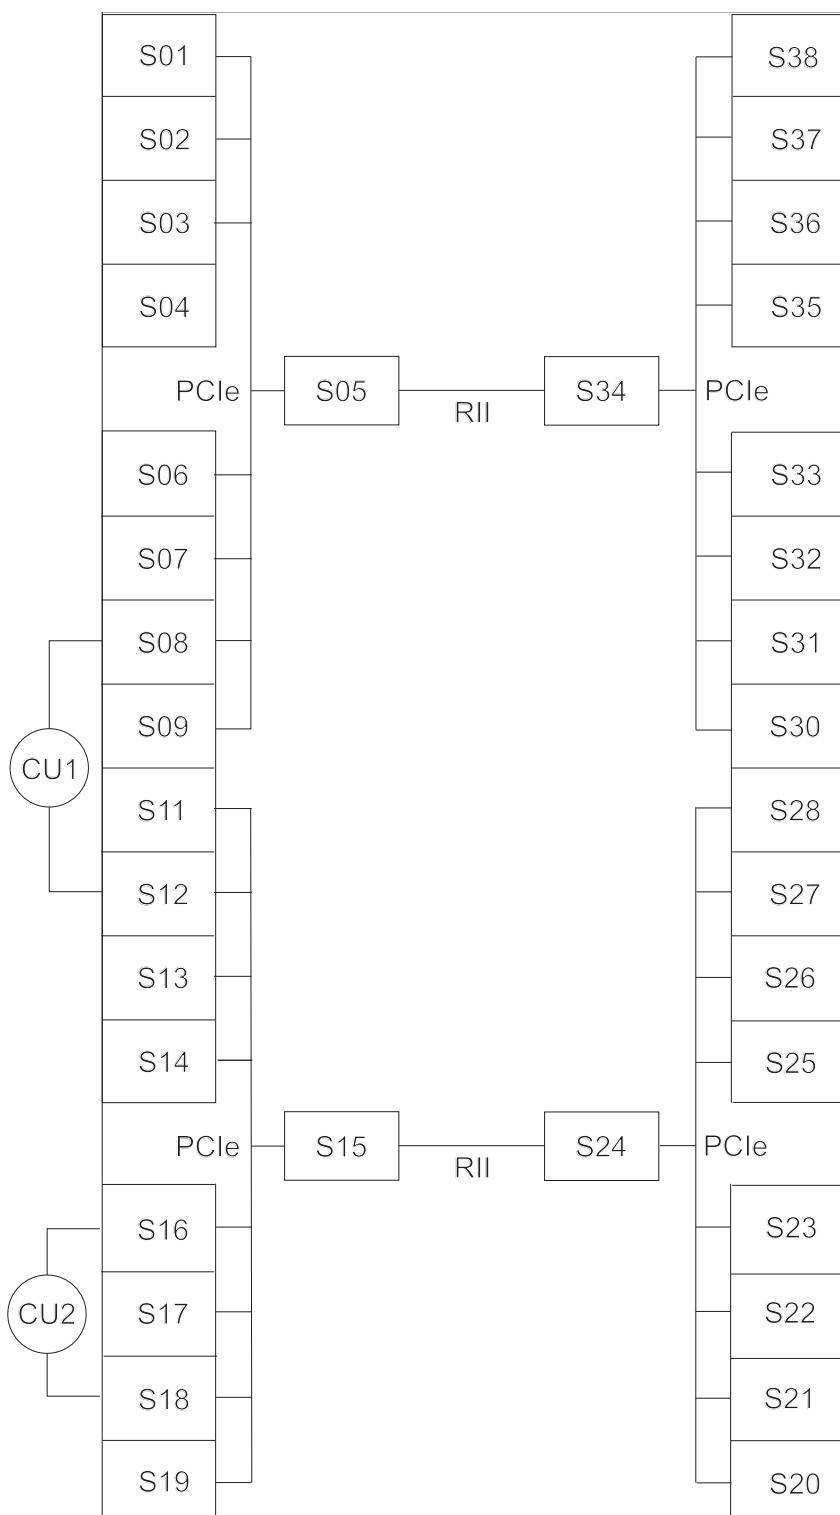
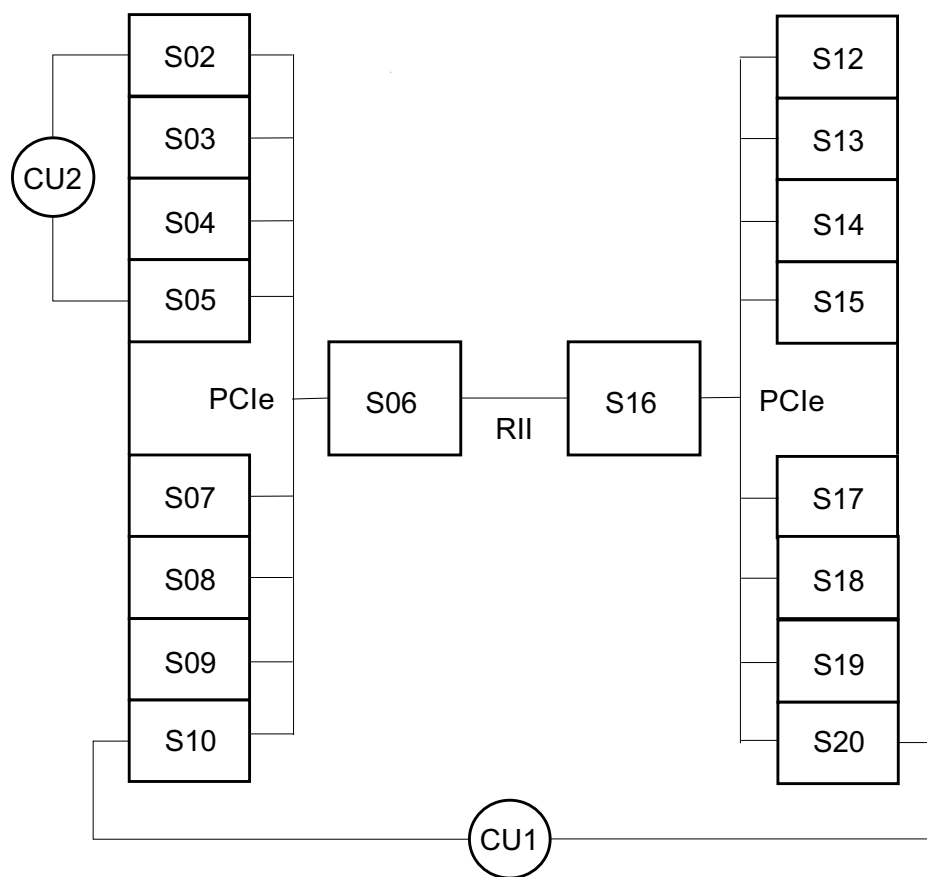
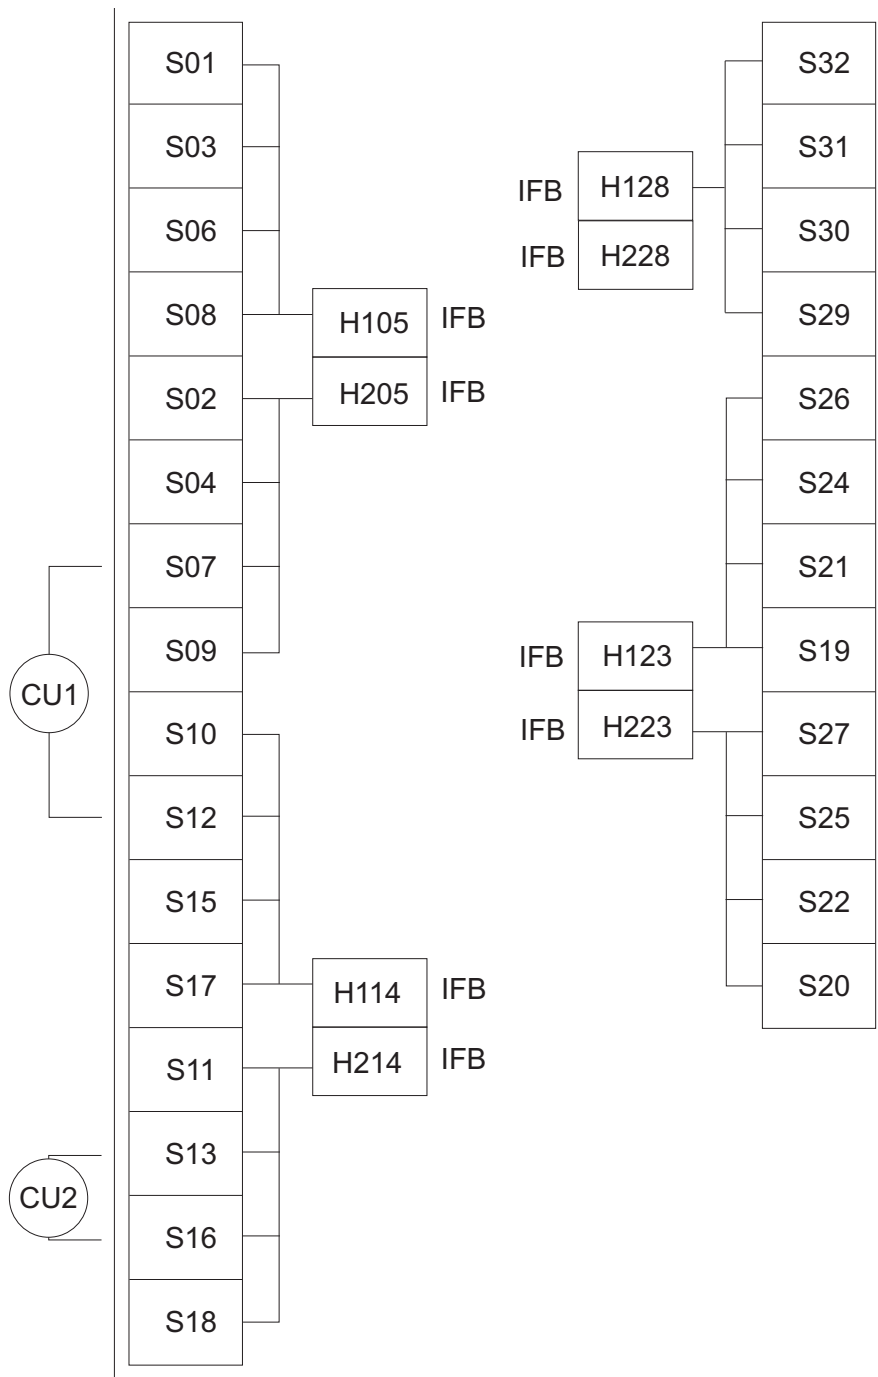
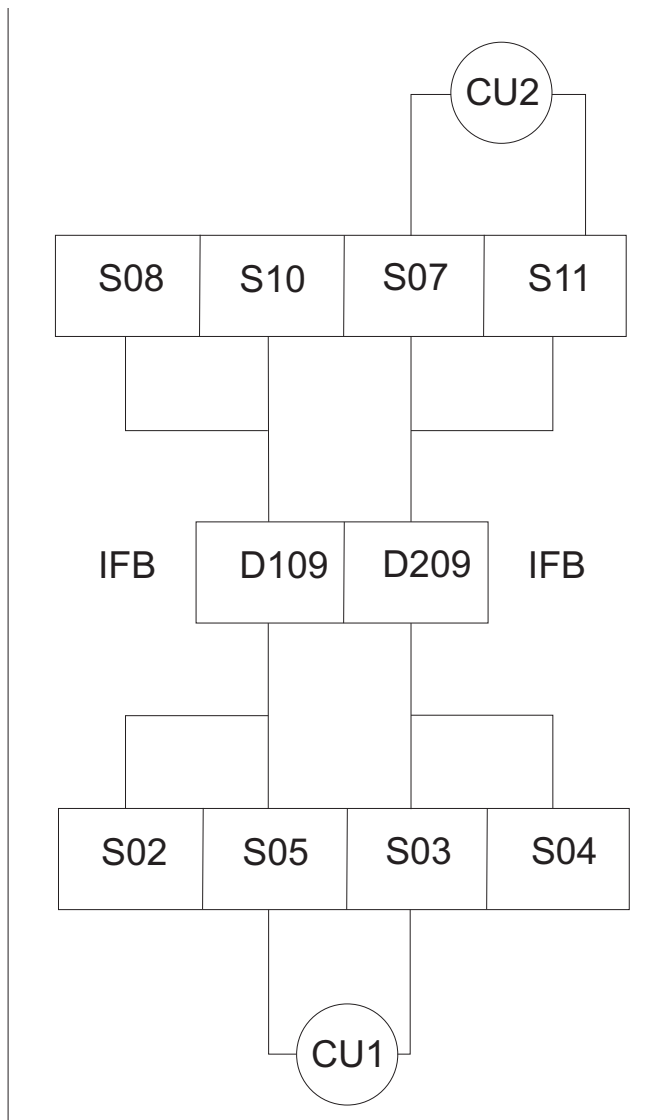

Figure 1. I/O channel path configuration for a representative PCIe I/O drawer in a 2817, 2818, 2827, 2828, 2964, 2965, and 3906 model
Figure 2. I/O channel path configuration for a representative PCIe I/O drawer in a 3907 model
Figure 3. I/O channel path configuration for a representative I/O cage in a 2827 and 2817 model
Figure 4. I/O channel path configuration for a representative I/O drawer in a 2965, 2964, 2828, 2817, 2818, and 2827 model
Figure 1 on page 2 and Figure 2 on page 3 show the major components of the input/output (I/O) subsystem for 3907, 3906, 2965, 2964, 2828, 2827, 2818, and 2817 models and suggests ways to configure
Figure 3 on page 5 and Figure 4 on page 6 shows the major components of the input/output (I/O) subsystem for 2827 and 2817 models and suggests ways to configure I/O for maximum availability.
When configuring devices with multiple paths to the same CPC, select any of the channel paths shown in Figure 3 on page 5 or Figure 4 that:
**Note:** The examples shown in Figure 1 on page 2, Figure 2 on page 3, Figure 3 on page 5 and Figure 4 on page 6 merely try to illustrate availability guidelines and do not represent overall optimal configurations.